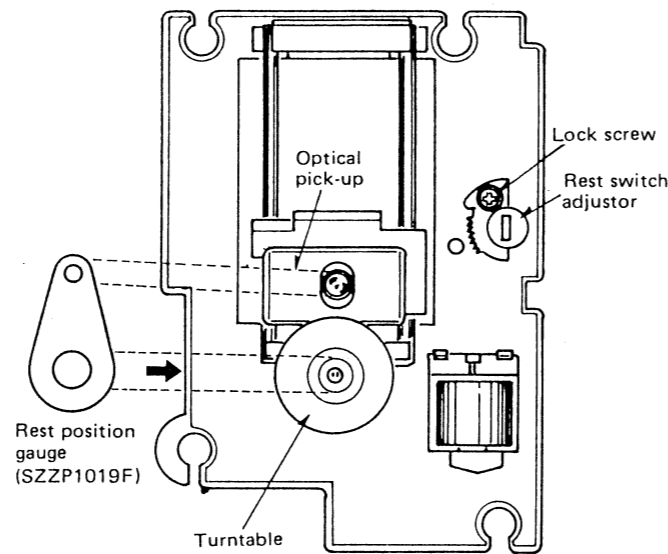

Fig: 4-1. Top view of traverse deck
4. Place the REST POSITION GAUGE (SZZP1019F) on the turntable as shown in figure 4-1.